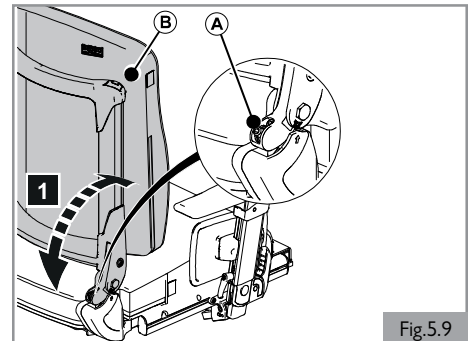
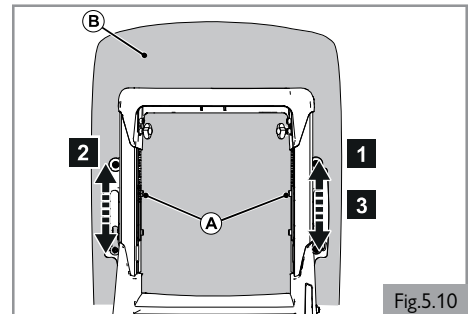

Fig.5.9
Fig.5.10
**Backrest angle (Fig. 5.9)**
1. Turn (A) in order to adjust (B).
**Backrest height with fixed back or reclining back (Fig. 5.10)**
1. Loosen (A) by one turn.
2. Adjust (B) to the desired position.
3. Tighten (A). See section 9 for specified torque values.